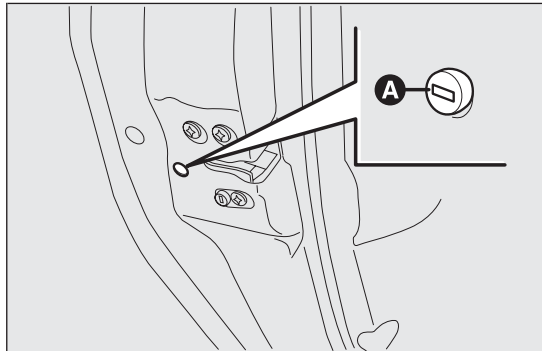

fig. 84
- insert the metal insert of the ignition key into housing A fig. 84;